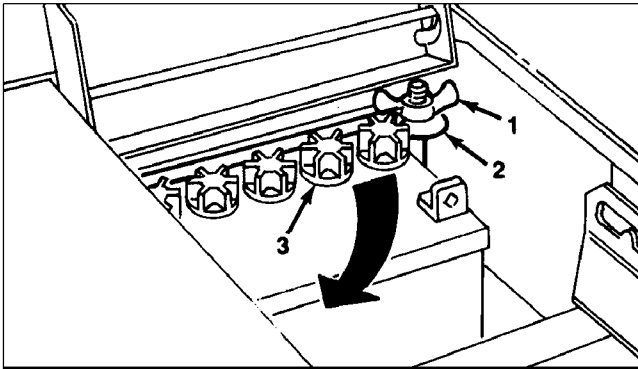

Figure 7
2. Remove the wing nut securing the battery hold downs to the rider chassis. (Fig. 7).